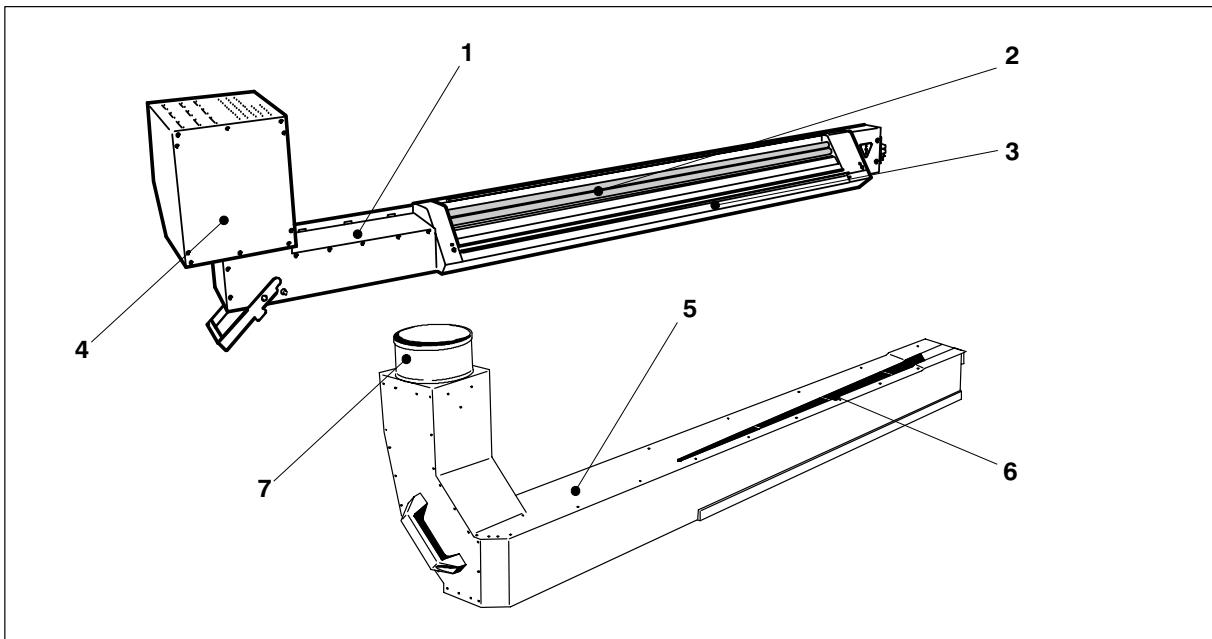

Fig. 18 Interdeck dryer (IR)
The IR radiators (Fig. 18/2) in the interdeck dryer (IR) generate intense heat radiation. The heat radiation dries the sheets that are being guided through.
The integrated blower (Fig. 18/4) generates blow air for cooling the IR radiators and supplies air to the integrated slotted nozzles (Fig. 18/3). The process exhaust air is drawn in by the suction module (Fig. 18/5) via the exhaust slot (Fig. 18/6) and is conducted to the dryer cabinet via the connecting piece (Fig. 18/7).